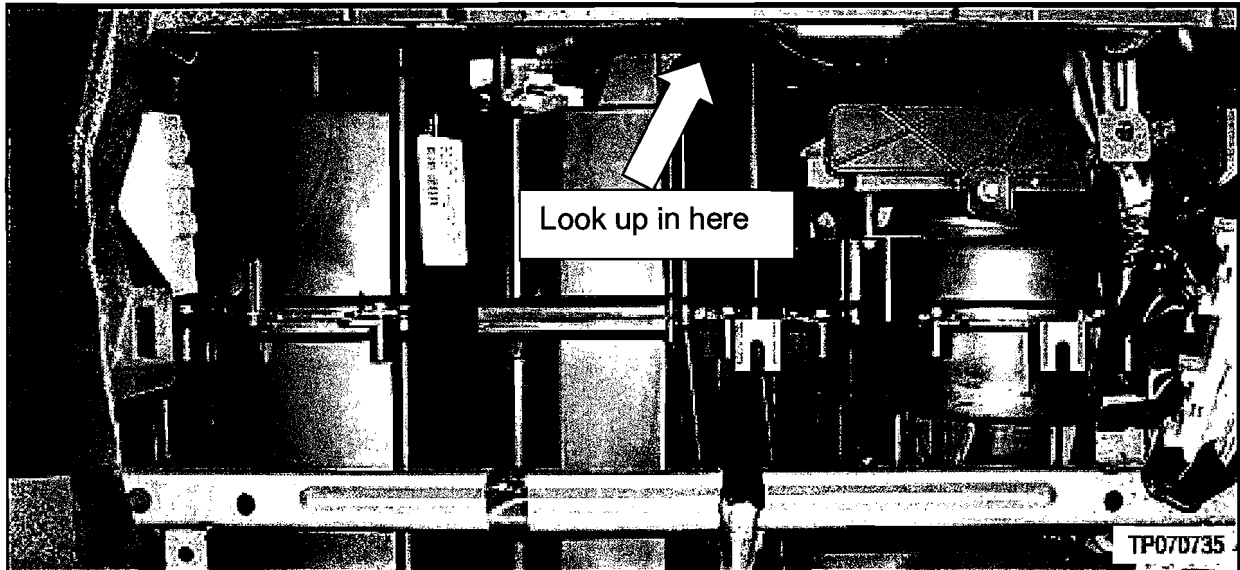

Figure A14
1. Look in the glove box opening, locate and disconnect both of the front passenger air bag module connectors (see Figure A14).